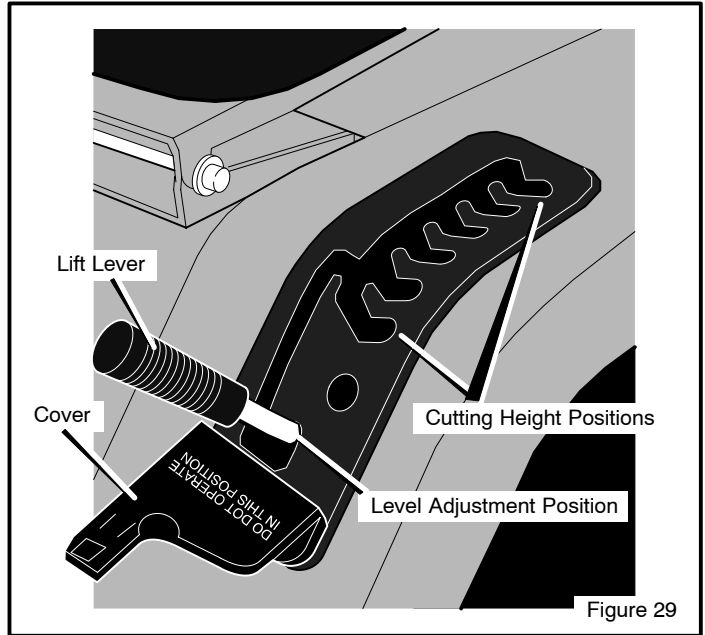

Figure 29
5. Move the **lift lever** to the LEVEL ADJUSTMENT position (Figure 29).